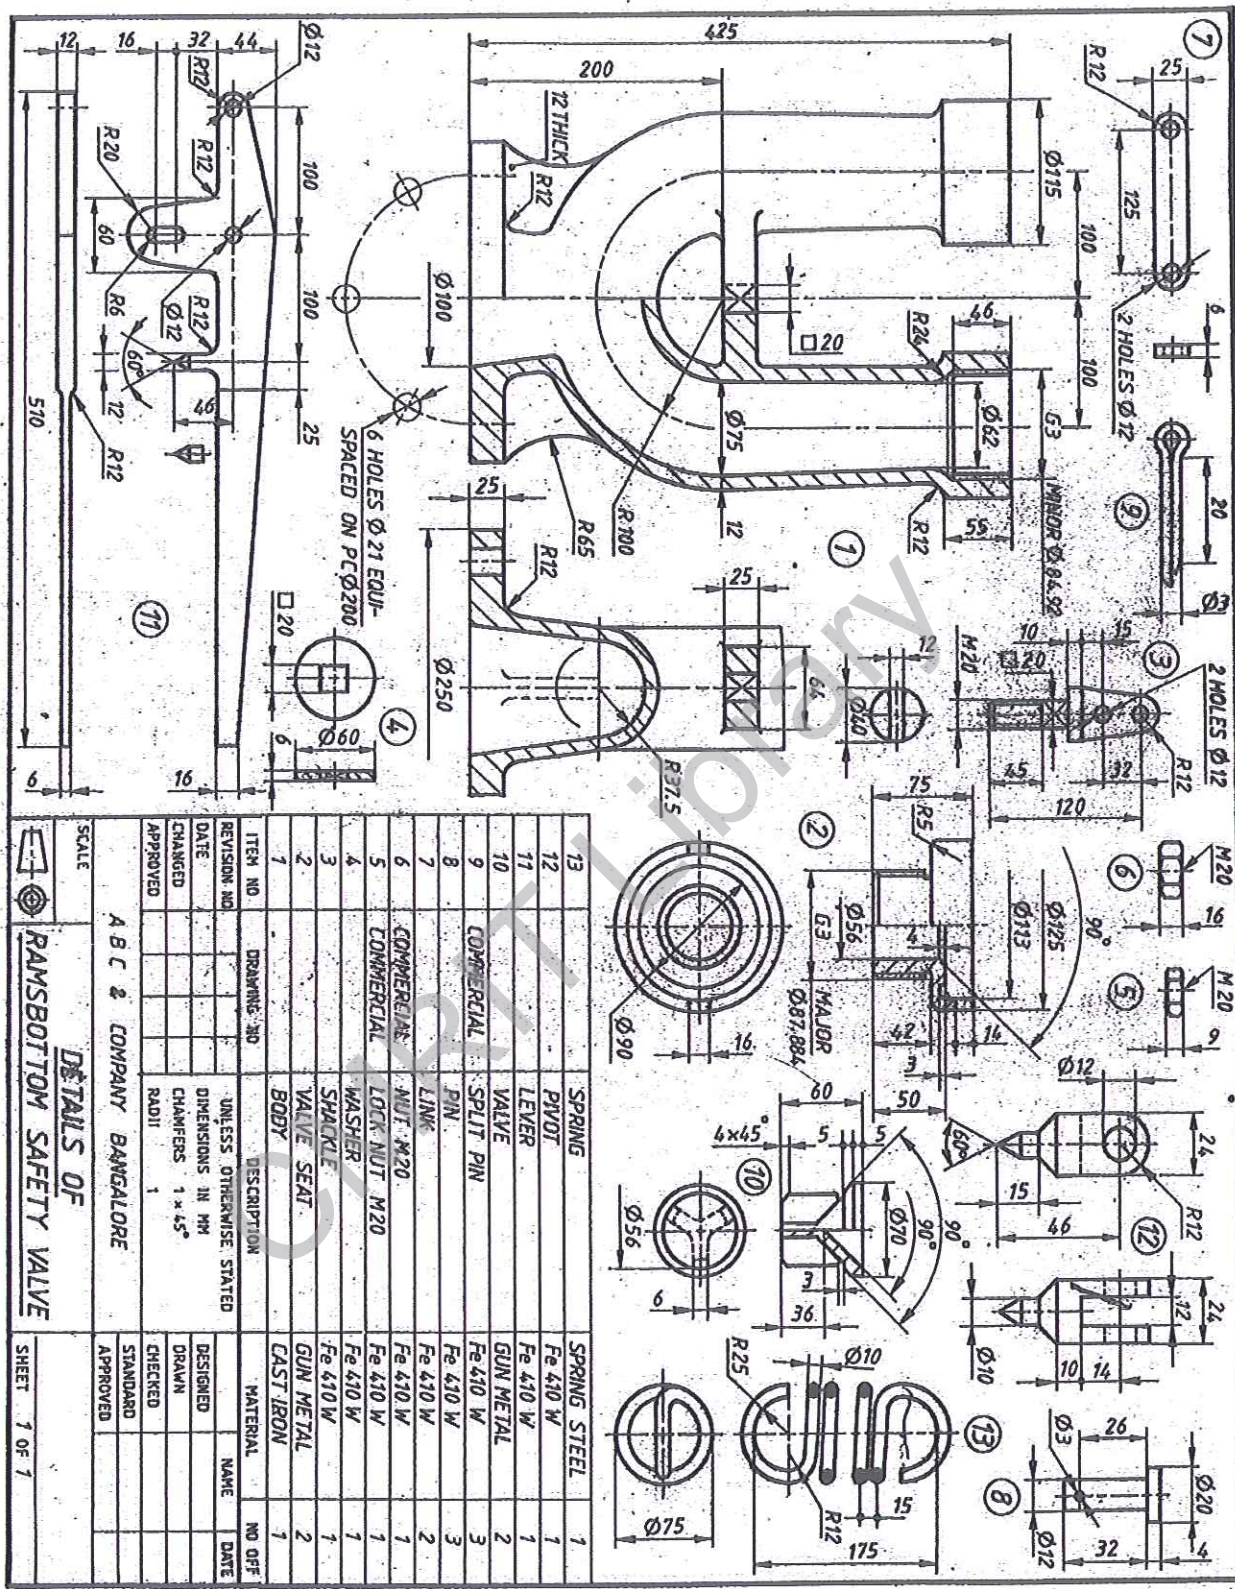

Figure 2. "RAMSBOTTOM SAFETY VALVE".
**Q.No.6** Figure 2. Shows the details of a "RAMS BOTTOM SAFETY VALVE". Assemble the parts and draw